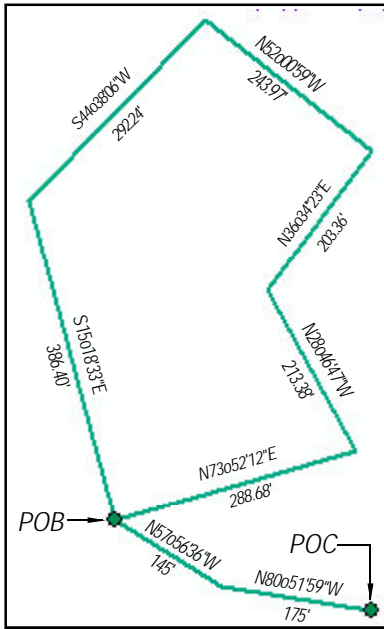

Figure 15
- e. Shown in Figure 15 is a sample closed traverse with a tie-line. The tie-line begins at the POC and terminates at the POB, at which point the traverse